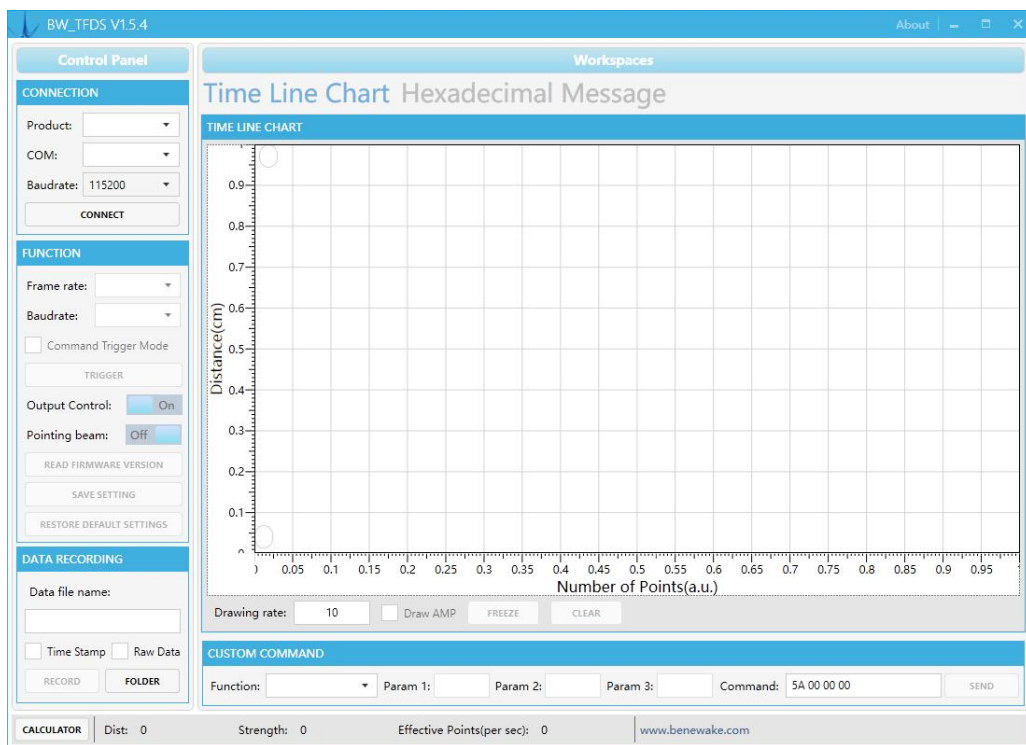

Figure 15 Benewake testing GUI for TF series
- See Figure 15 Benewake testing GUI for TF series of the GUI.